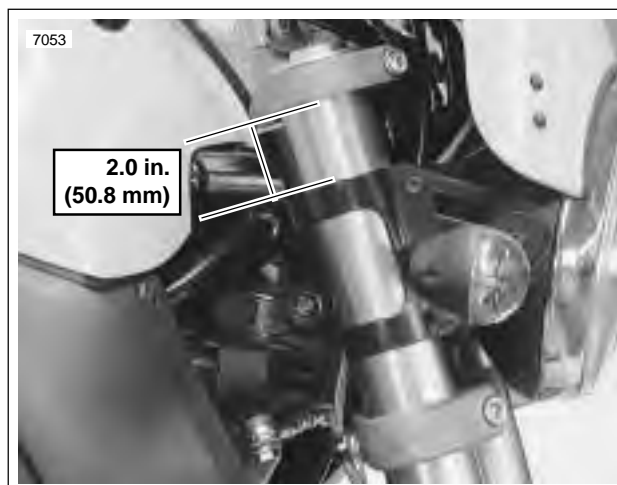

Figure 2-65. Aligning Front Forks
3. See Figure 2-65. Align and secure fork tubes.